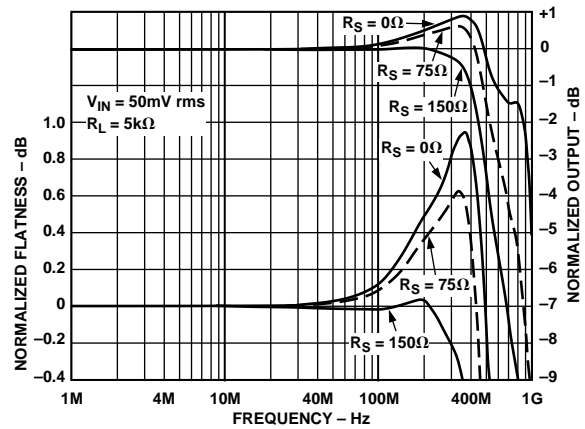

Figure 20. Frequency Response vs. Input Series Resistance
- ⁵A resistor (R_S) placed in series with the mux inputs serves to optimize 0.1 dB flatness, but is not required. Increasing output capacitance will increase peaking and reduce bandwidth (see Figure 20.)
Each open-loop buffer is implemented as a complementary emitter follower that provides high input impedance, symmetric slew rate and load drive, and high output-to-input isolation due to its β^2 current gain. The selected buffer is biased ON by fast switched current sources that allow the buffer to turn on quickly. Dedicated flatness circuits, combined with the open-loop architecture of the AD8180 and AD8182, keep peaking low (typically < 1 dB) when driving high capacitive loads, without the need for external series resistors at the input or output. If better flatness response is desired, an input series resistance (R_S) may be used (refer to Figure 20), although this will increase crosstalk. The dc gain of the AD8180 and AD8182 is almost independent of load